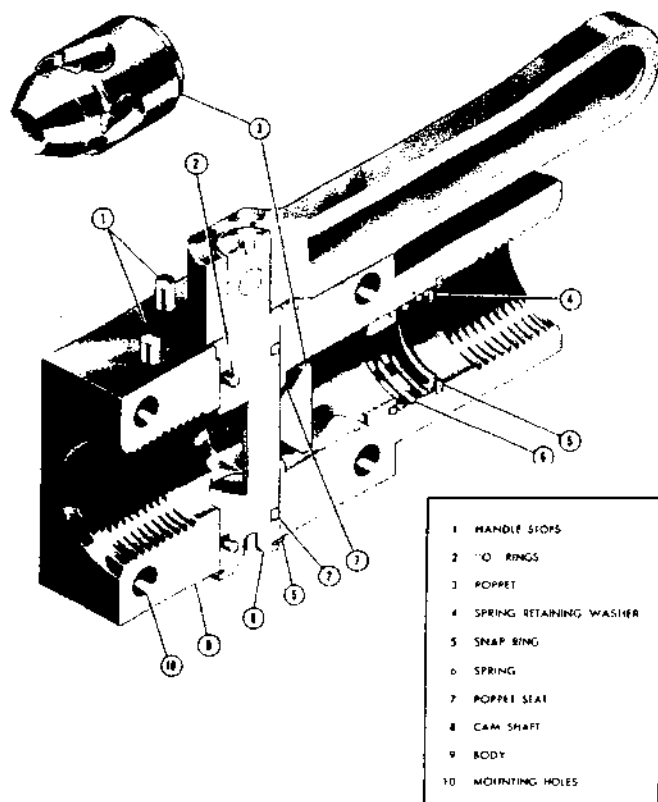

Figure 155 — Ground Check Shut-off Valve
(3) GROUND CHECK SHUT-OFF VALVES. (See figure 155.)—A normally open, manually operated, cam-actuated poppet type shut-off and check valve with an aluminum alloy body and steel cam is located in each wheel well in the alighting gear up line. When closed, the valve operates as a check valve, and will permit alighting gear to be extended, but not retracted.